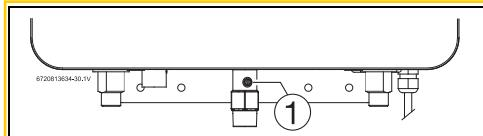

Fig. 35 Gas pressure test port
- Locate the inlet gas pressure test port (see Fig. 35).
- Loosen the screw inside test port fitting (do not remove) and connect the manometer tube to the test port (see Fig. 35).